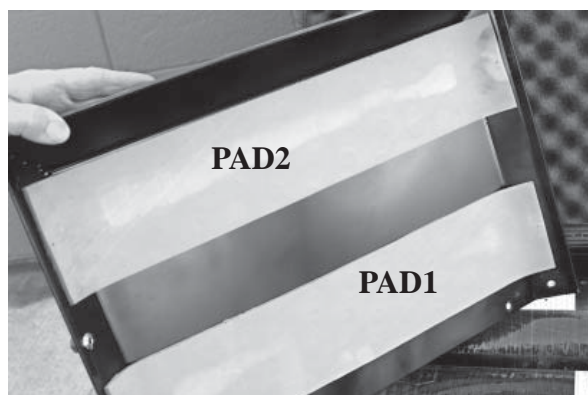

figure 23
11.2. Turn the top plate over, and inspect the foam padding (PAD1 and PAD2) for damage (figure 23). If foam is worn or damaged, replace.